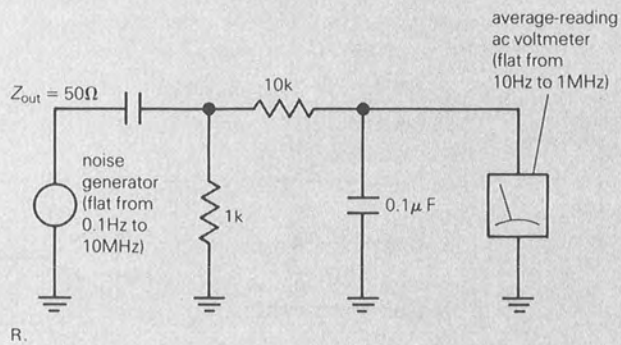

Figure 7.83
(4) Measurements are made on a commercial amplifier (with $Z_{in} = 1\text{M}$) in order to determine its equivalent input noise e_n and i_n at 1kHz. The amplifier's output is passed through a sharp-skirted filter of bandwidth 100Hz: A $10\mu\text{V}$ input signal results in a 0.1 volt output. At this level the amplifier's noise contribution is negligible. With the input shorted, the noise output is 0.4mV rms. With the input open, the noise output rises to 50mV rms. (a) Find e_n and i_n for this amplifier at 1kHz. (b) Find the noise figure of this amplifier at 1kHz for source resistances of 100 ohms, 10k, and 100k.
(5) Noise measurements are made on an amplifier using a calibrated noise source whose output impedance is 50 ohms. The generator output must be raised to $2\text{nV/Hz}^{1/2}$ in order to double the output noise power of the amplifier. What is the amplifier's noise figure for a source impedance of 50 ohms?
(6) The output noise voltage of a white noise generator is measured with the circuit shown in Figure 7.83. At a particular setting of the noise generator output level, the ac voltmeter reads 1.5 volts "rms." What is the noise generator's output noise density (i.e., rms volts per root hertz)?